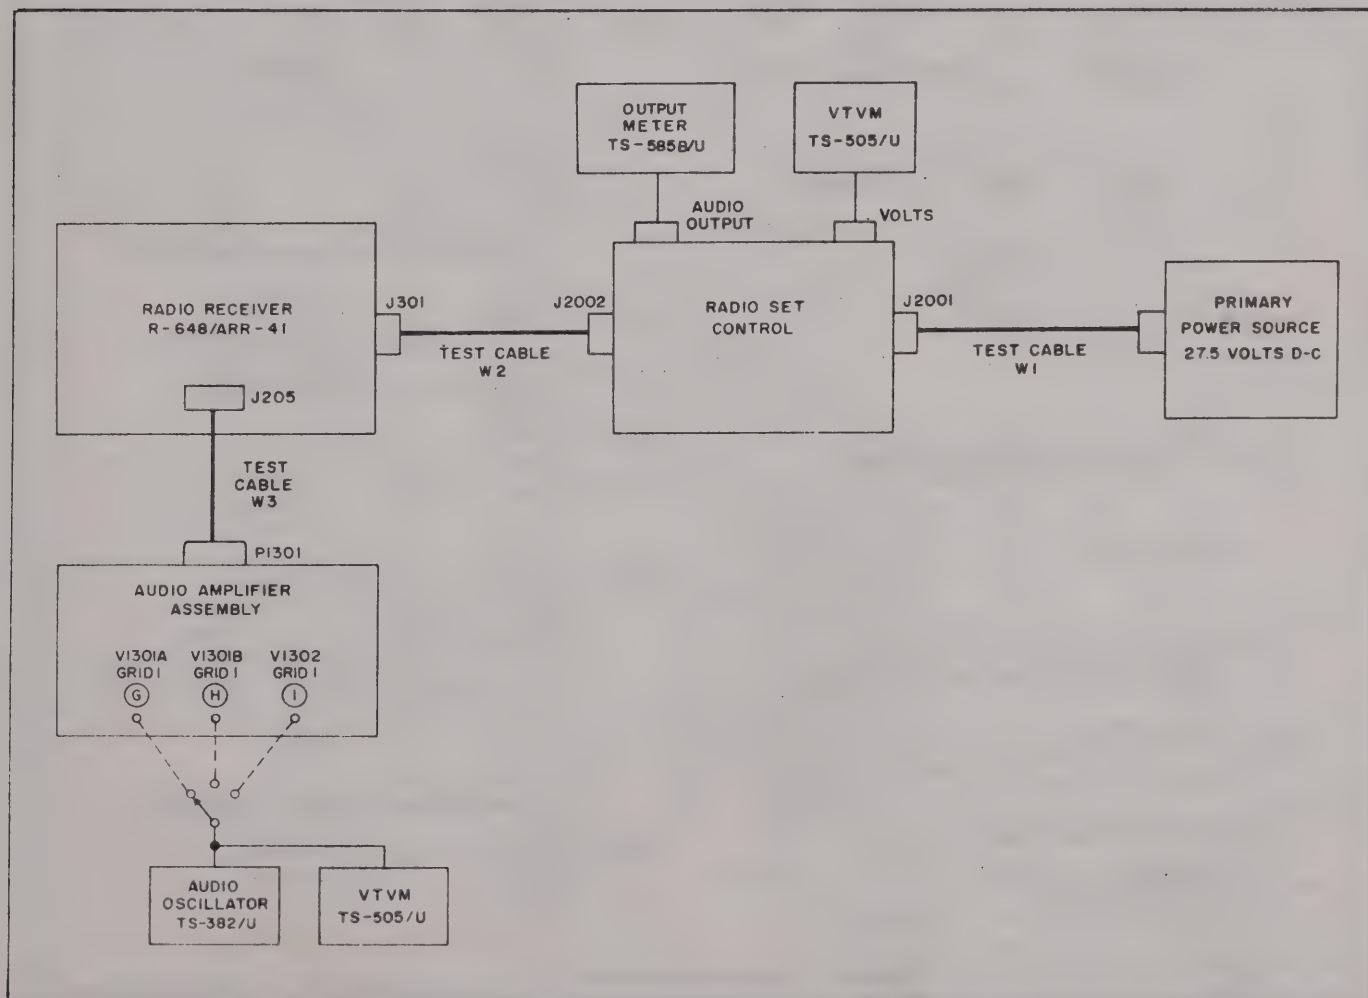

Figure 6-3. Stage Gain, Audio Amplifier Assembly, Test Bench Setup
**6-19.** The stage gain tests, paragraphs 6-20 through 6-22, are designed to test the sensitivity and help to isolate trouble within the audio amplifier assembly. These tests should be performed after repair work, as a method of testing sensitivity, and may be used to isolate trouble to a stage or group of stages within the audio amplifier assembly. Refer to figure 6-3 for the test bench setup and to figure 6-18 for the location of test points. The following preparatory operations should be performed for the tests described in paragraphs 6-20 through 6-22: